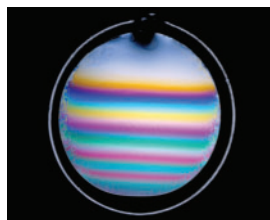

Figure 15
5. **Figure 15** shows the bands of reflected colour produced by exposing a thin soap-bubble film to white light. What produces the colours? Is the bubble of uniform thickness? Explain. K/U T/I A